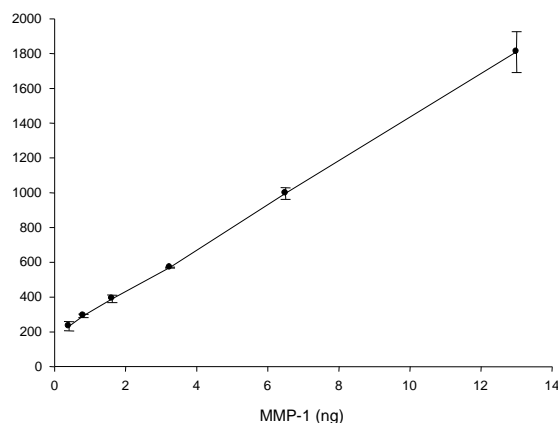

Figure 1. Sensitivity of the SensoLyte[®] 520 MMP-1 assay kit
- Plot data as RFU versus concentration of test compounds or enzyme concentration (Figure 1).